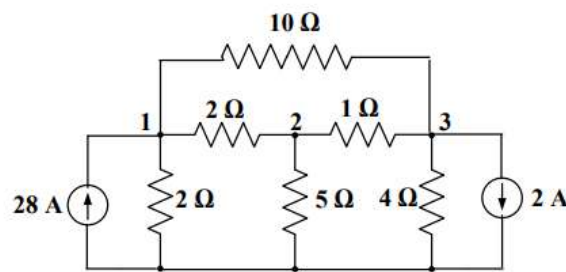

Figure 1
11. (a) Determine the node voltages in the Figure 1. (10 marks)